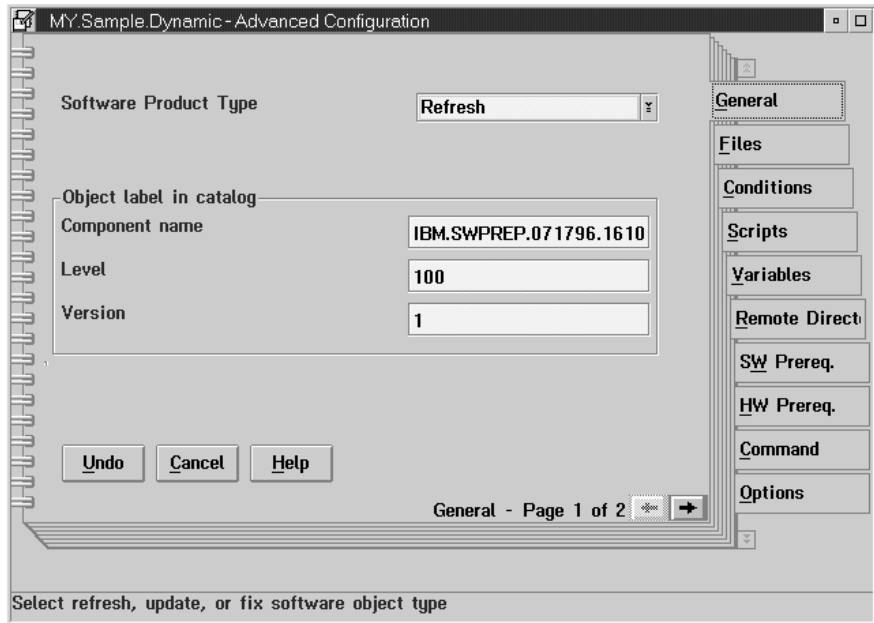

Figure 140. My.Sample.Dynamic - advanced configuration general page
- 2 Open the My.Sample.Dynamic - Advanced Configuration notebook. It appears in Figure 140